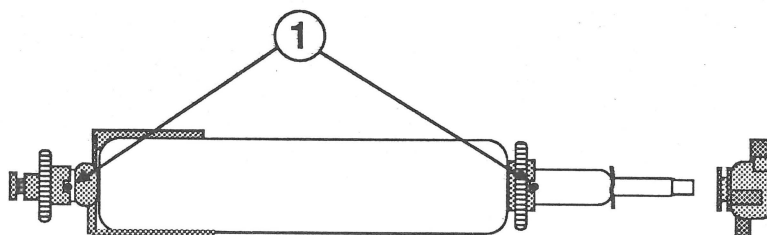

FIGURE 35
13. Locate the two pins on the platen (Figure 35, #1). Remove both pins using a pin punch; then remove all the black plastic pieces from the platen.